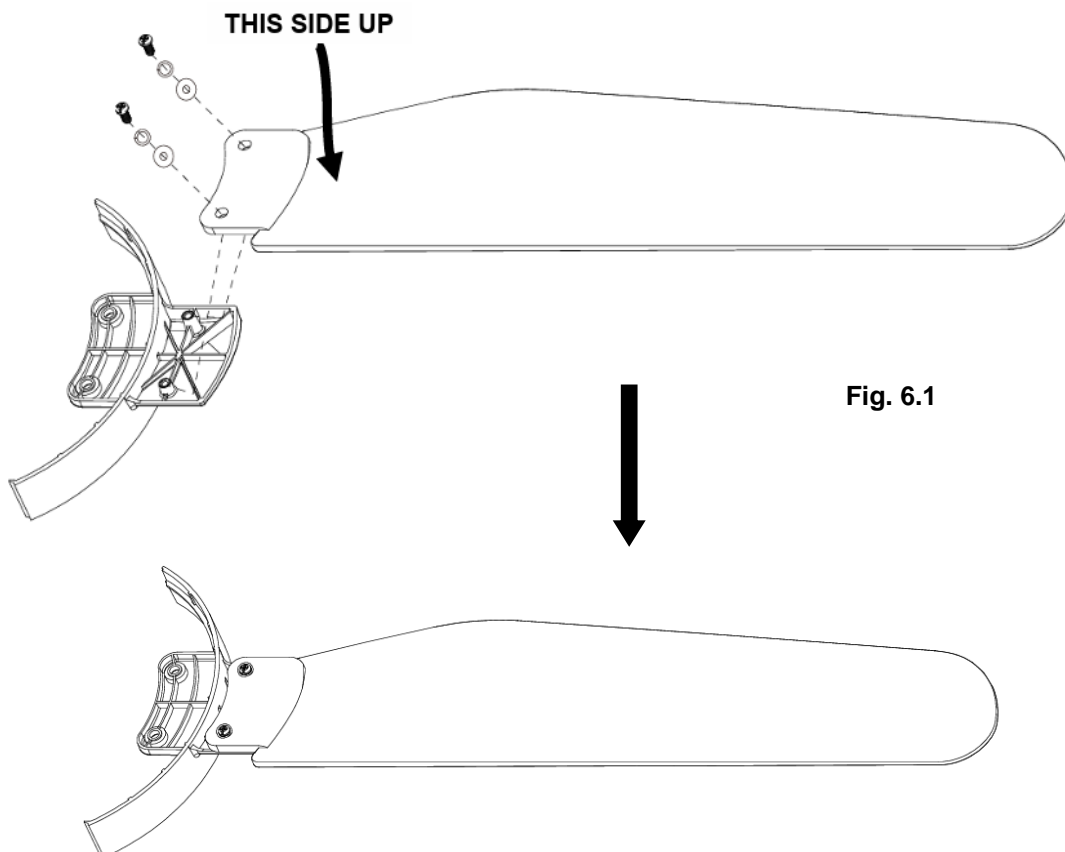

Fig. 6.1
1. Assemble the fan blades to the fan blade bracket by tightening the 2 blade screws and lock washers & flat washers. Take note the correct side of the blades with the marking "THIS SIDE UP" is on the screw head side. (Fig. 6.1).